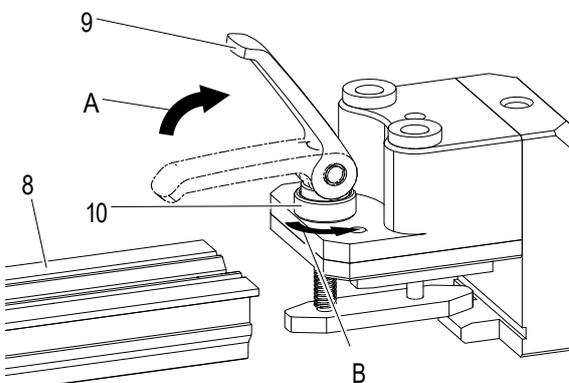

Fig. 106: Open/loosen eccentric tappet (9) and adjustment nut (10)
→ Tighten all 4 self-tapping screws (W5154-K30X8-ES) (6) with a torque shut-off screwdriver (e.g. TorqBee) to 2 Nm (see Fig. 106).